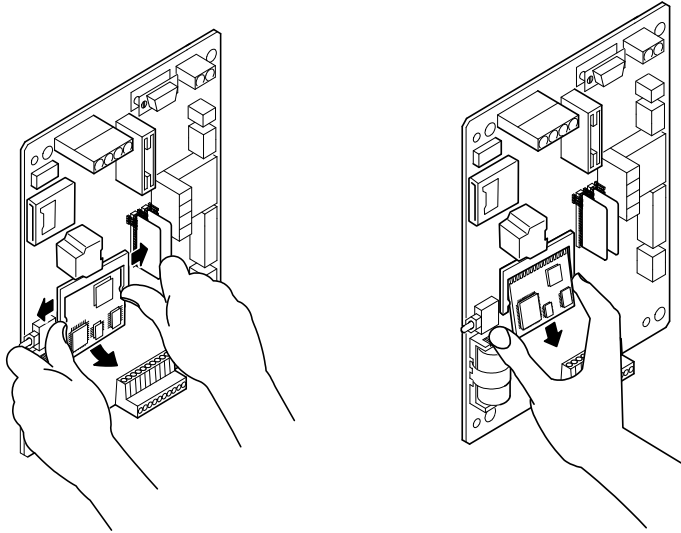

Figure 3 Engine Card Removal
- 7) On the uninstalled board, use your thumbs as shown in Figure 3, push the engine card retainers outward until the bottom of the engine card pops out.
- 8) Using one hand, grasp the outside edges of the engine card between the thumb and fore finger (see Figure 3) and very carefully pull down to remove the card. The card should almost fall out of the connector.